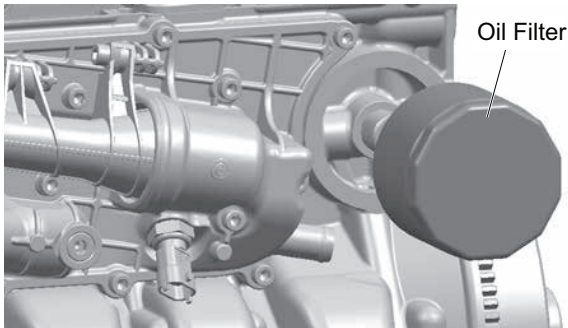

Fig. 6 Replace Oil Filter
- 1. Remove the oil filter with universal strap wrench (Ref. Fig. 6).